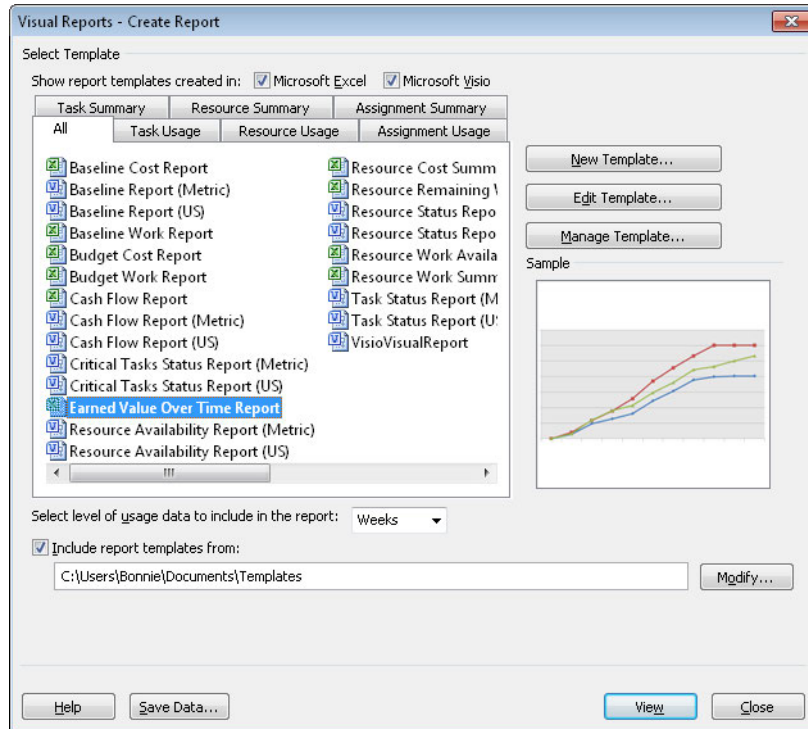

FIGURE 9-11 When you select a report in the list, a preview of the report appears on the right side of the dialog box.
2. In the Visual Reports—Create Report dialog box, on the All tab, shown in Figure 9-11, click Earned Value Over Time Report.